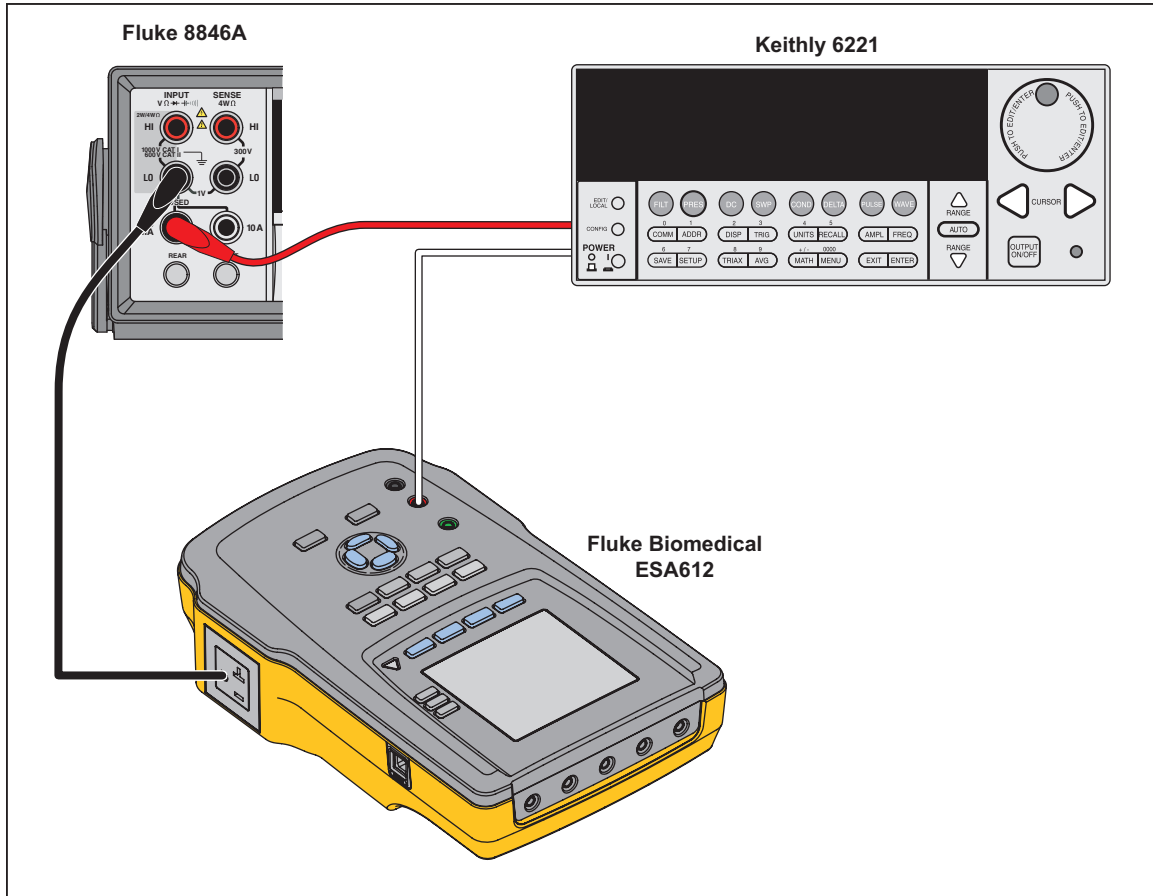

Figure 3-25. Direct Equipment Leakage, Enclosure Leakage: Ground to Red Connections gjc129.eps
1. Move the lead from the RA applied part to the Red jack, the other end should still be connected to the DMM Input (-). The EO ground lead should still be connected to the current source. See Figure 3-25.